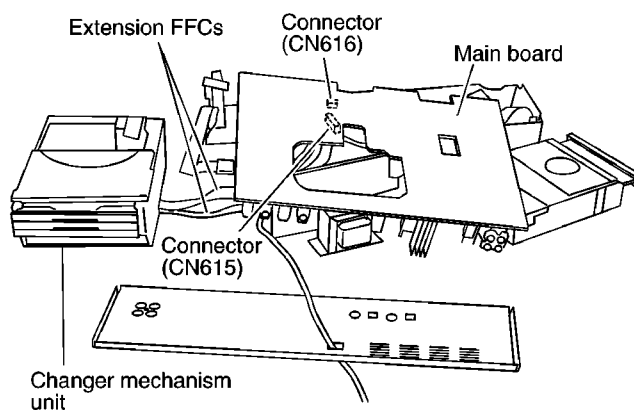

Fig.5
(Shown in Fig.5.)
5. Check the main board as shown Fig.5.